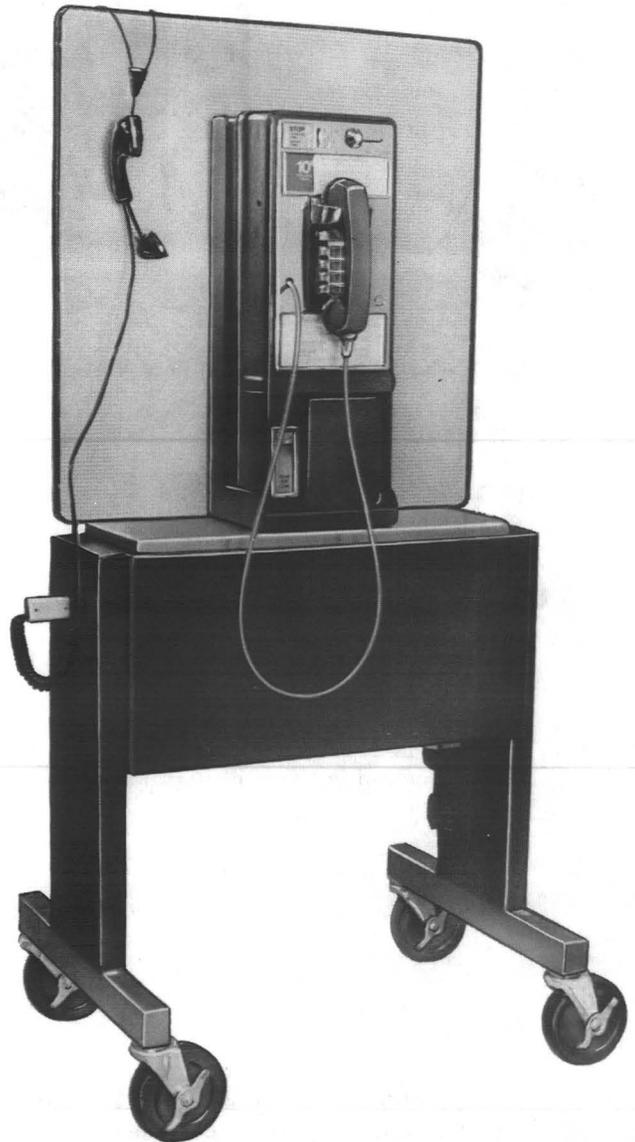

Fig. 1—Typical KS-21428, List 4 Phonecart With Modified 1C-Type Coin Telephone Set
1.01 This section provides information on the KS-21428 Phonecart (Fig. 1 and 2) which is a rolling cart for use with a modified 1C- or 1D-type coin telephone set in hospitals and/or nursing homes. The cart is intended to be rolled from one location to another to make available coin telephone service for those patients who do not have a room phone and whose illness prevents them from using public telephones provided outside the hospital room or ward. These carts are also used to provide coin telephone service in penal institutions.